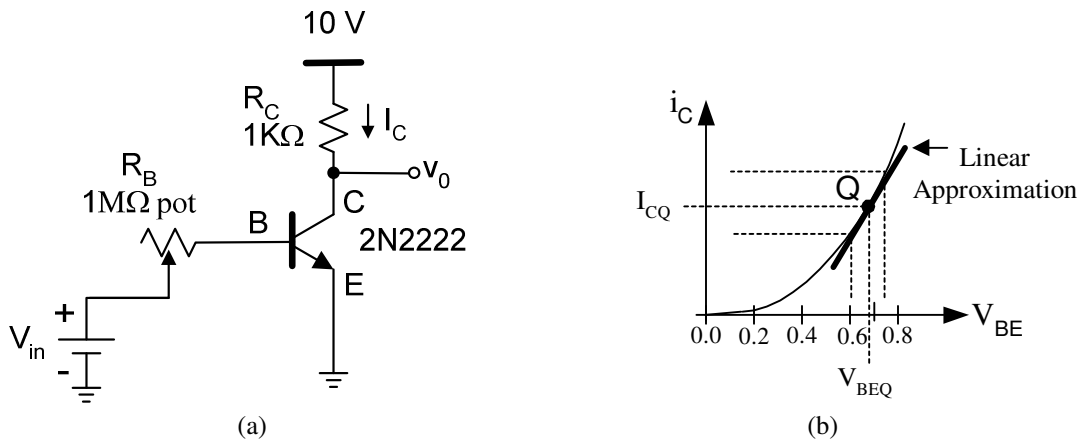

Fig. 2. (a) BJT transistor circuit 1 and (b) input characteristics for the BJT if $V_{CE} > V_{CESAT}$
For base-emitter voltages below 0.5 V the collector current is very small, typically less than 1 μ A. It will be evident in the next sections that the BJT is often operated with larger collector currents and larger base-emitter voltages; e.g. $V_{BE} > 0.5$ V. When a base-emitter voltage is selected, the collector current is fixed; the operating (quiescent) point Q is therefore determined by V_{BEQ} and I_{CQ} . The derivative of this function evaluated at the operation point Q is defined as the small signal transconductance, computed from Fig. 2 as:
2. Assume the transistor you will use has a β of 155 and $V_{BE(on)}=0.65$ V is the turn-on voltage which means that the transistor enters into the active region once the input voltage applied to base-emitter junction reaches the turn-on voltage. For the circuit in Fig. 2(a), calculate the minimum value of V_{in} that makes the transistor enter into linear region.
3. For the circuit in Fig. 2(a), compute the current I_B and I_C , and the voltage V_C for at least 5 input voltages within the range $V_{BE(on)} < V_{BE} < 1V$, use $R_B = 1M\Omega$.
4. For the circuit in Fig. 2(a), if the V_{BE} was set to 0.1V, what would you expect for the value of V_C .